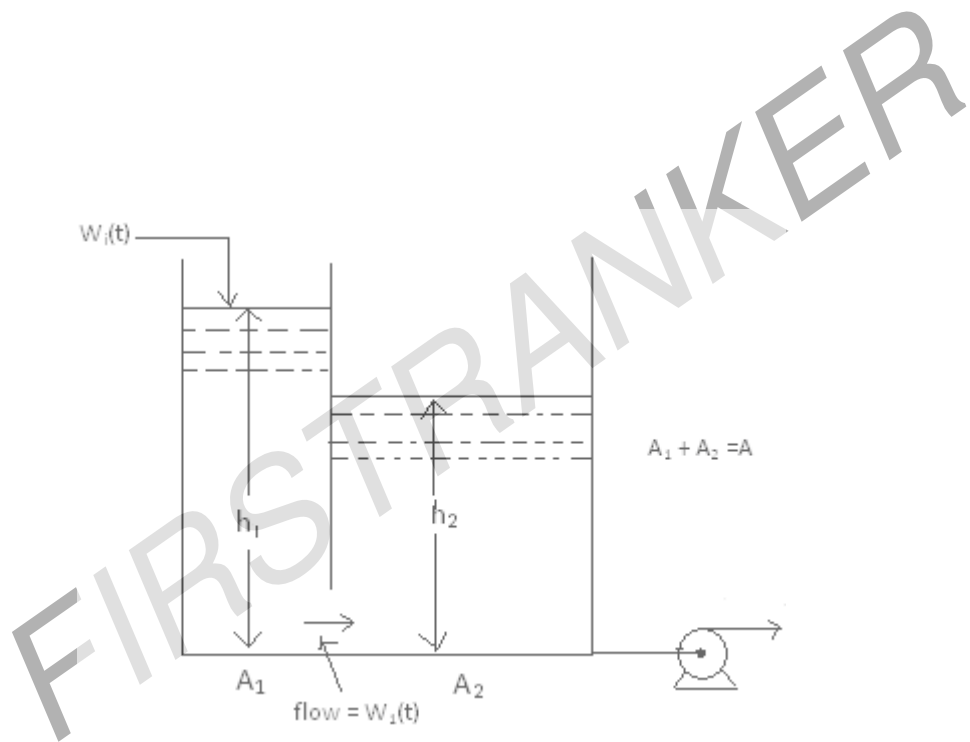

Figure 12:
8. A liquid system is shown in below figure 12: